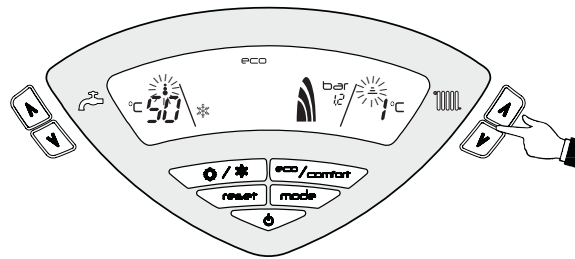

fig. 30 - Test Mode
1. To operate the boiler in test mode, press the CH keys together for 5 seconds (see fig. 30)